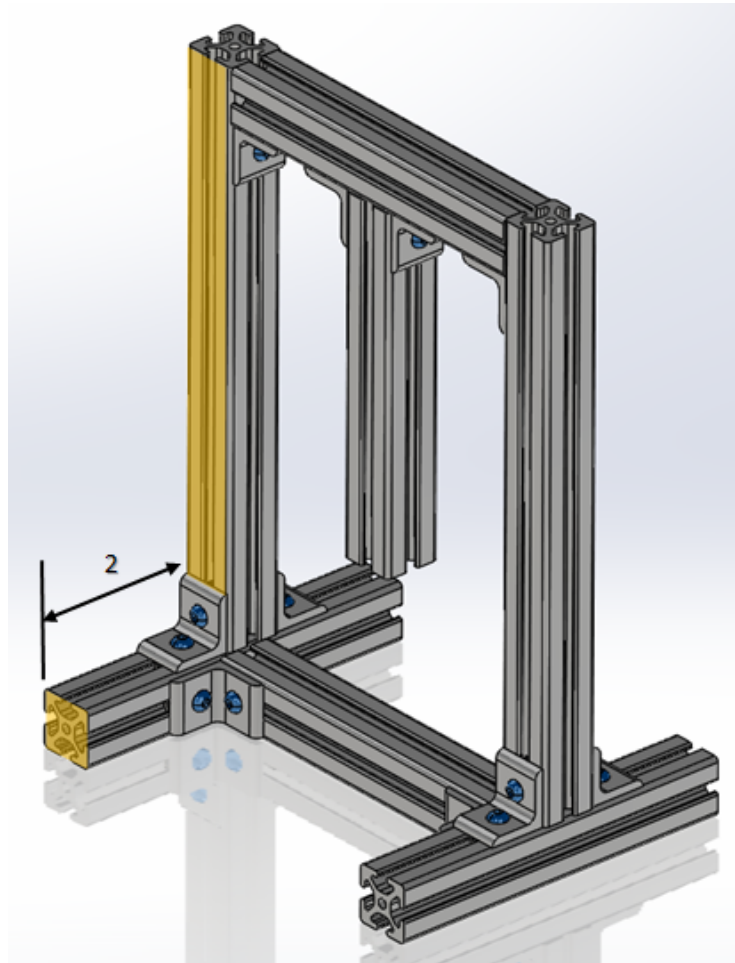

Figure 6. Placement of frame stand relative to frame base
1. Use side 2 of the Measuring Tool to measure the offset of the M-Shaped Stand. *Note that this measurement should be done on the side with the 90° elbows attached to the center bar of the H-shaped base* (see Figure 6).